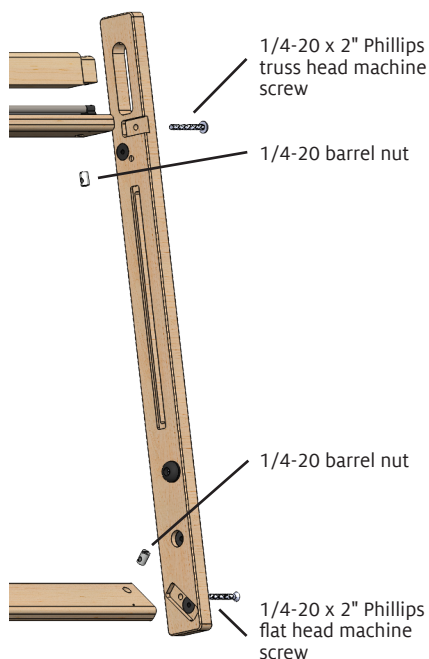

FIGURE 5: ATTACH THE RIGHT UPRIGHT
5. Attach the right upright: Orient the right upright with its longer slot at the bottom and the rubber bumper facing to the left (the inner side of the loom). Align the right upright so the tension beam fits into the upper slot and the top beam and bottom beam fit into their grooves (Figure 5).